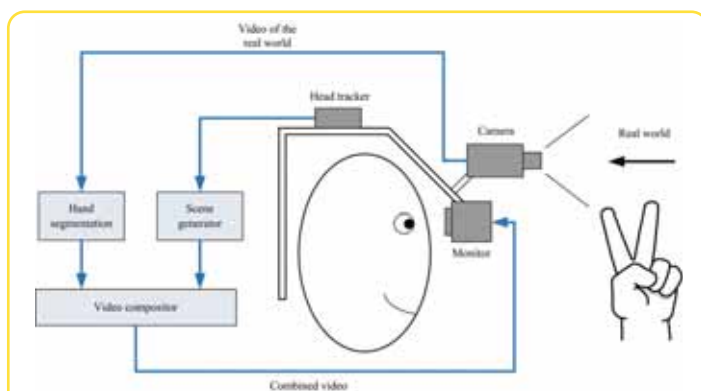

Figure 1: Architecture of the visualization of a virtual hand, based on augmented virtuality (AV)
In order to see a more realistic hand, here we describe a method of visualizing user's hands through a simple, low-cost approach, based on augmented virtuality (AV) as shown in Figure 1. Two-dimensional camera images are integrated into the virtual environment in real time, which allow users to see realistic views of their hands in the HMD.